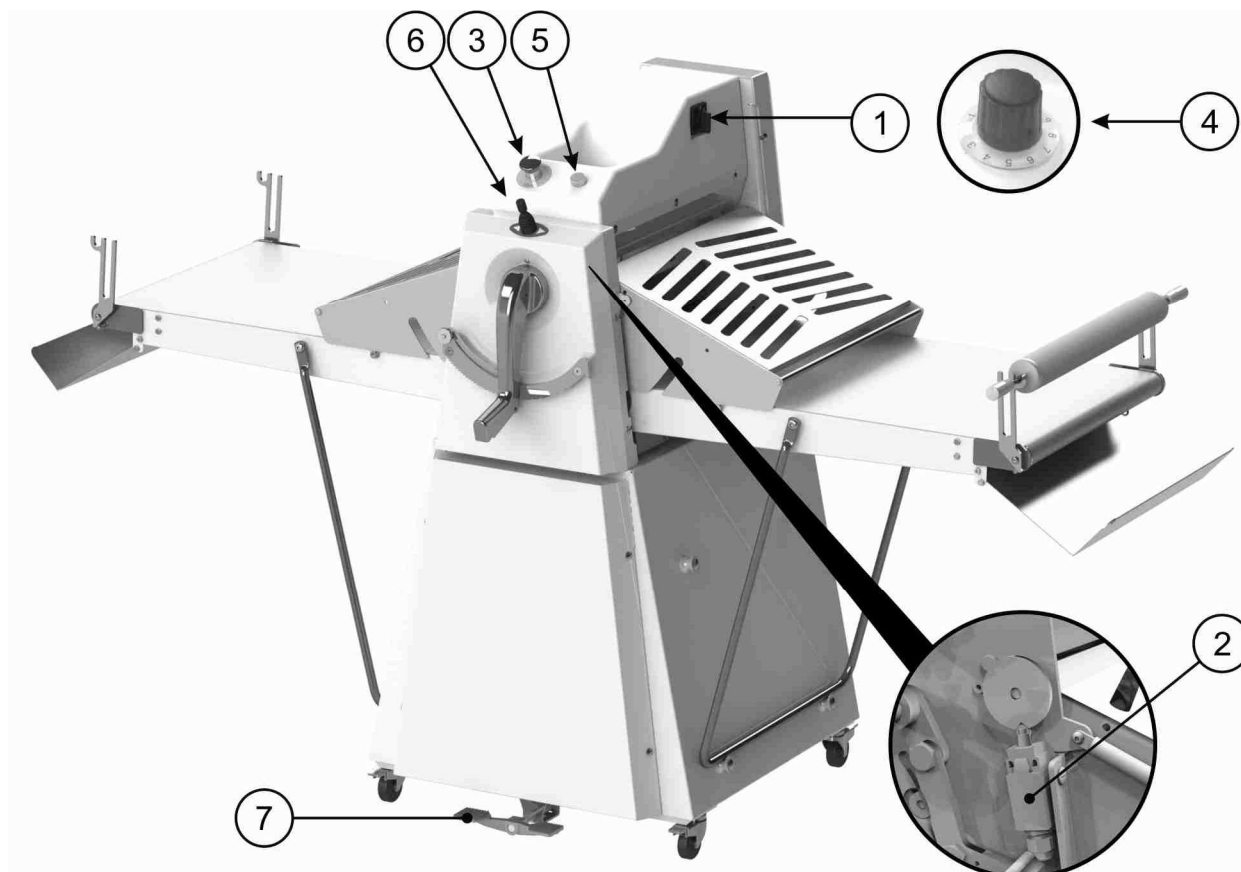

Figure 4
As illustrated in Figure 4, the machine is supplied as standard with the following control and adjustment devices:
- Make sure that all the guards ref. 3 are closed (if not, the machine won't work)
- Make sure that the emergency stop push-button ref. 3 Figure 4 is disabled (if not, reset it)
- Check that the joystick ref. 6 Figure 4 is in central position (machine stopped)
- Position the main switch to **I (ON)** ref. 1 Figure 4